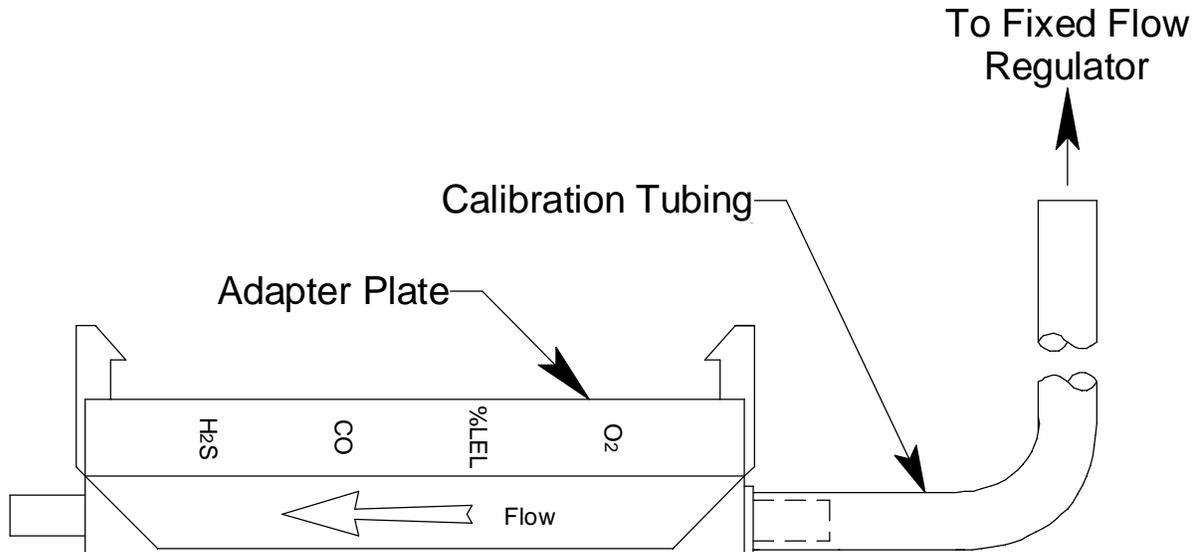

Figure 25: Calibration Kit Assembly
7. Use the calibration kit sample tubing to connect the calibration adapter plate to the regulator. Attach the tubing to the adapter plate on the inlet side as shown below in Figure 25.